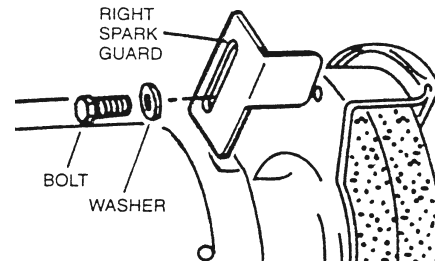

FIGURE 2
- Select spark guards (17 and 18), washer and bolt. Install the right spark guard to the wheel guard as shown in Figure 2.
Note: There is a left and right spark guard. Refer to Figure 2 to be certain that you install them correctly.